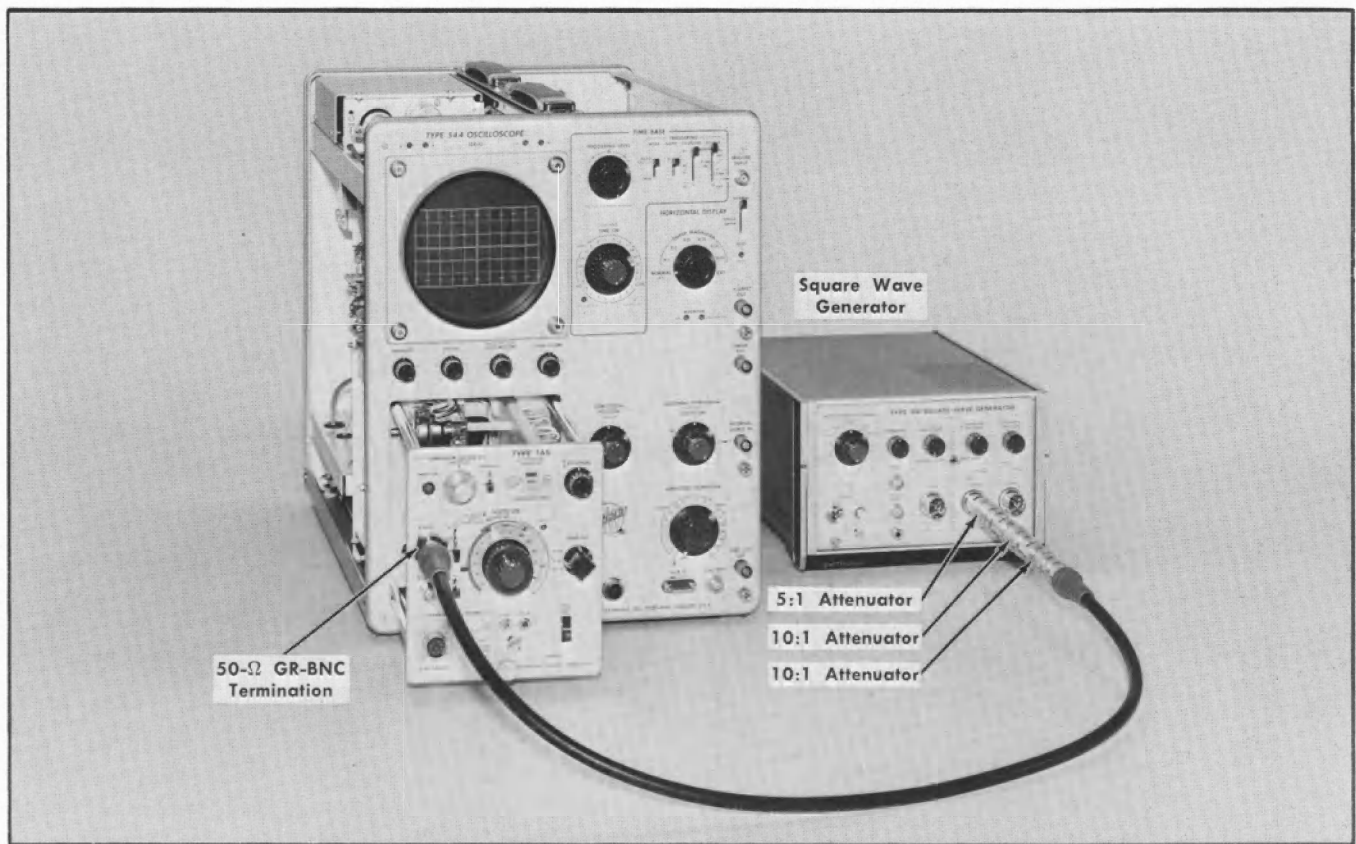

Fig. 6-11. Equipment setup for steps 8 through 12.
a. Equipment setup is shown in Fig. 6-11. Typical waveforms appear in Fig. 6-12.
- Equipment setup is shown in Fig. 6-11 except:
- a. Equipment setup is shown in Fig. 6-11, except as follows: No connections to the A INPUT connector are required; A Input AC-GND-DC control is at GND.